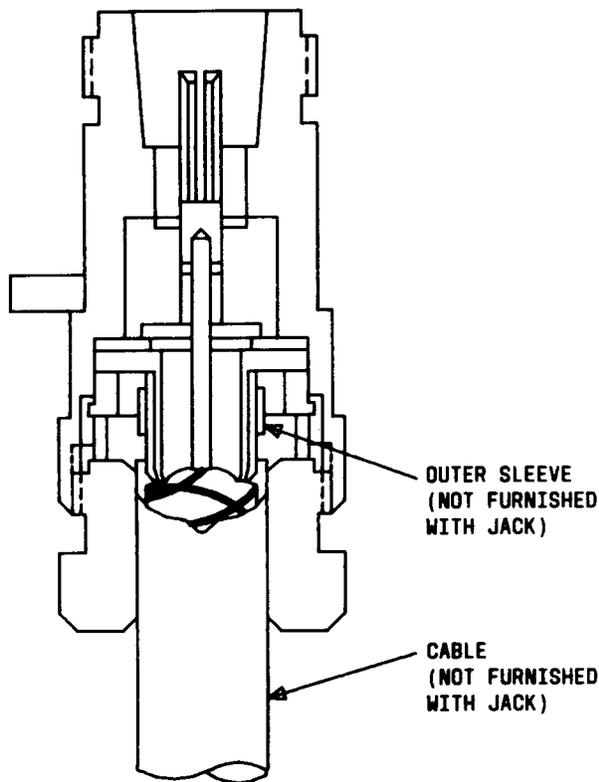

Fig. 8—KS-19577, L1, Coaxial Jack
2.08 KS-19577, L1: The KS-19577, L1, jack (Fig. 8) is a 50-ohm, N-type, panel mounted, coaxial jack equipped with an internal crimp terminal for solderless connection to the shield of No. 724 cable. A